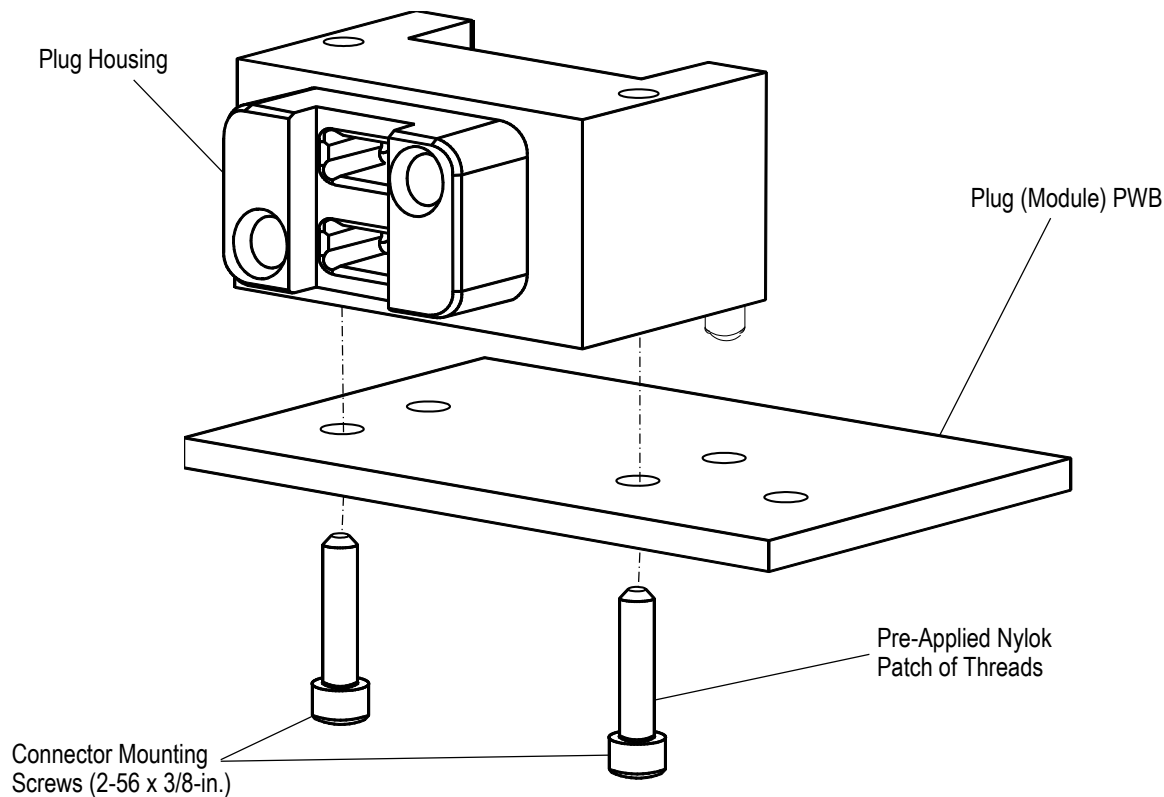

Figure 10
B. Plug (Module) Connector (Figure 10)